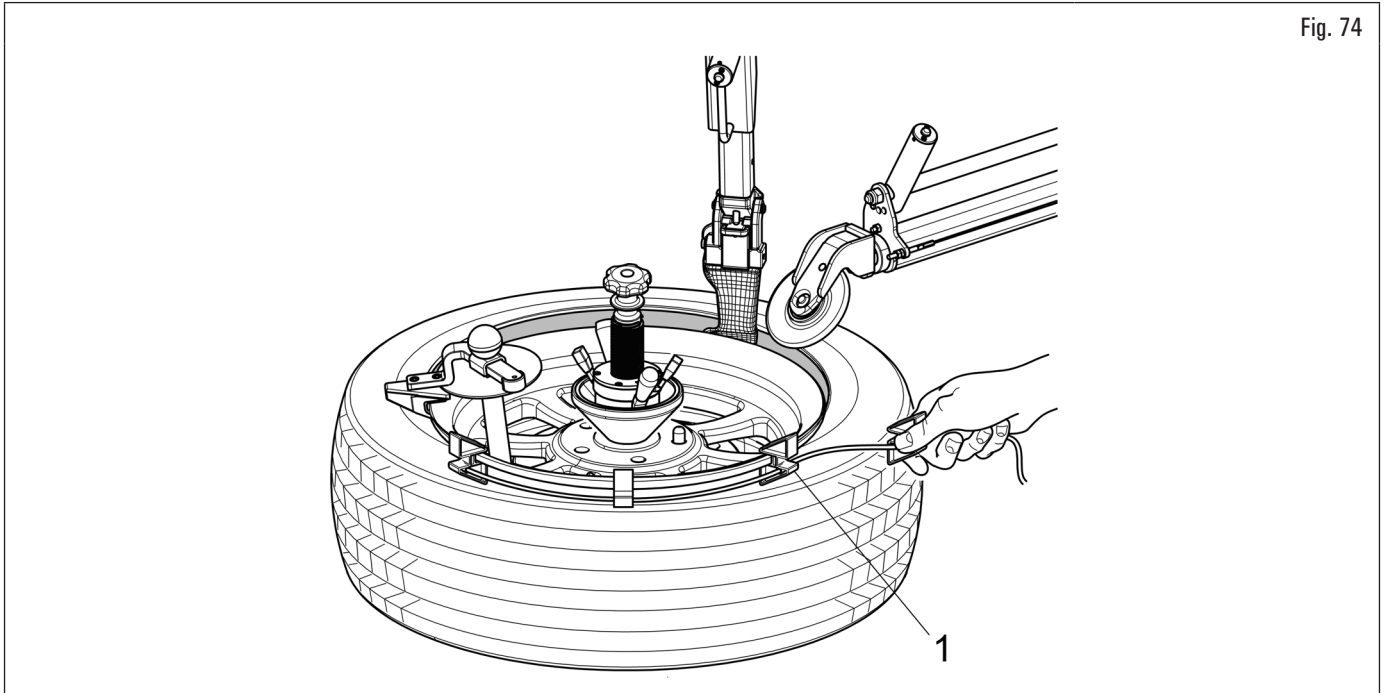

Fig. 74
3. rotate clockwise up to tyre complete mounting (see Fig. 74);
For wheels that are particularly difficult to fit, use the bead press extension (Fig. 74 ref. 1) (optional) of the beadpusher with puller.